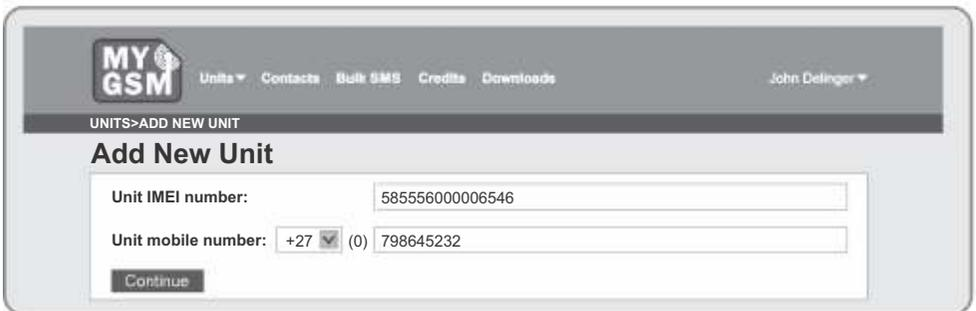

FIGURE 30.
2. Enter the unit's 15-digit IMEI number and SIM card's mobile number. The IMEI number will be displayed on the product packaging as well as on the GSM module itself as indicated below in Figure 30.